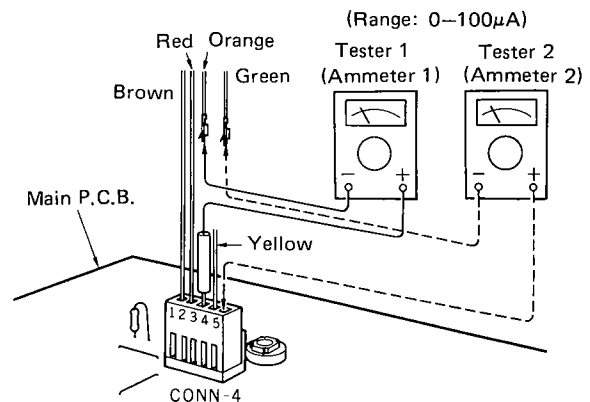

Fig. 13
- 4) Fig. 13 gives a detailed view of CONN-4. Push pins 3 and 5 (at Point A shown in Fig. 13) with a minus \ominus screwdriver and remove the lead wire.